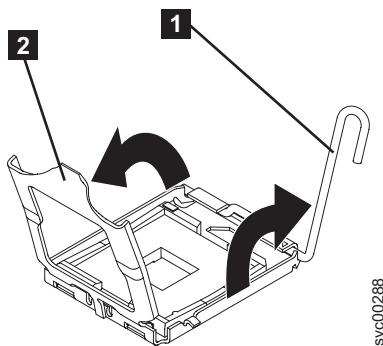

Figure 249. The microprocessor release lever and bracket frame fully opened
4. Open the microprocessor release lever (**1** in Figure 249) to the fully open position.
5. Open the microprocessor bracket frame (**2** in Figure 249).